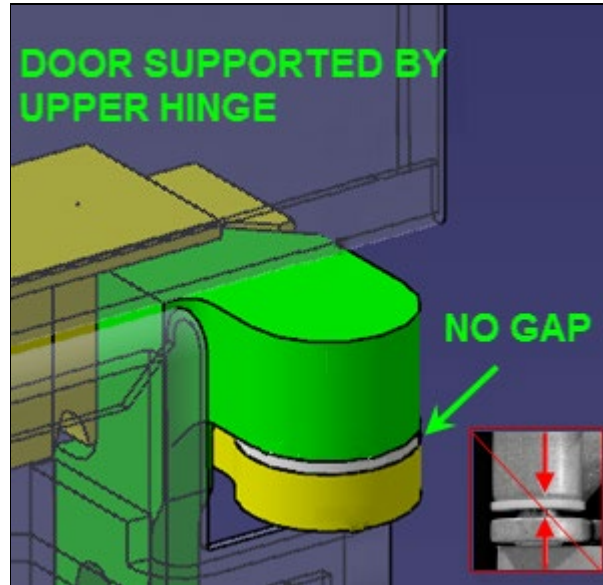

FIGURE 19: UPPER SUPPORT- NO GAP ALLOWED
- Door is fully supported by the *top hinge*, not the lift table (no gap at the top pivot point) (Figure 19).